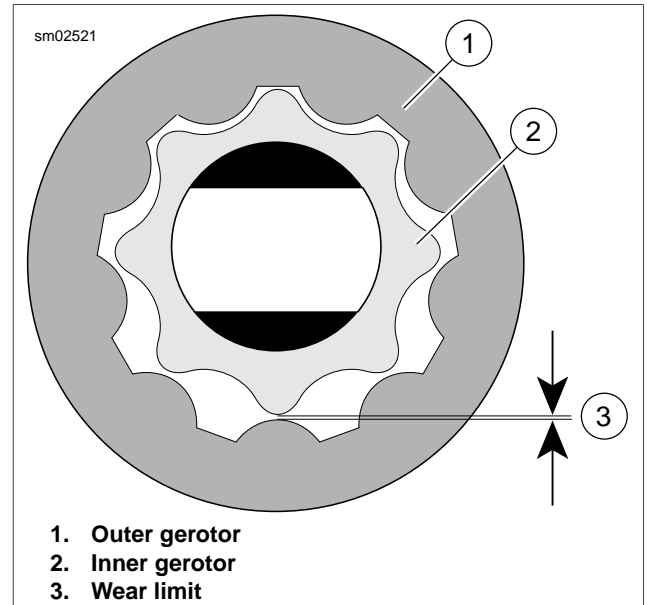

Figure 3-128. Measure Gerotor Sets for Wear
6. See Figure 3-128. Check gerotor wear.